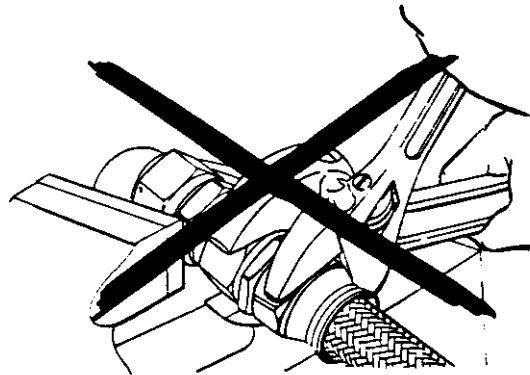

Figure 21. Wrong Method To Loosen Swivel Nut
**Caution:** Do not place wrench on socket of hose fitting when removing hose line (See Figure 21).